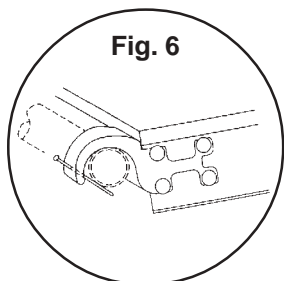
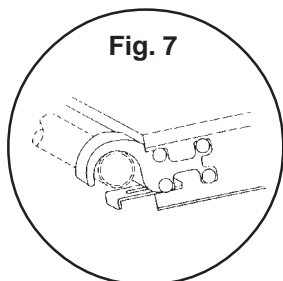

Fig. 6
Fig. 7
7. Upon completion of tower to desired height, install and lock double guard railing and toeboards on all 4 sides as required by OSHA. Make sure all guard rail posts are secured with lock pins. Install walkboards to fully deck platform work area. Secure walkboards in place by using an 8 penny nail (Fig. 6), engaging slide lock (Fig. 7), engaging rotation lock (Fig. 8), as equipped. See OSHA regulations for additional information concerning securing decking.
Bring one frame up and attach diagonal cross bracing to the first frame and then the second frame, securing in place with frame brace locks (Fig. 6). Make sure ladder portion of the frames are on the same side. Then attach the second diagonal cross brace to the frames.